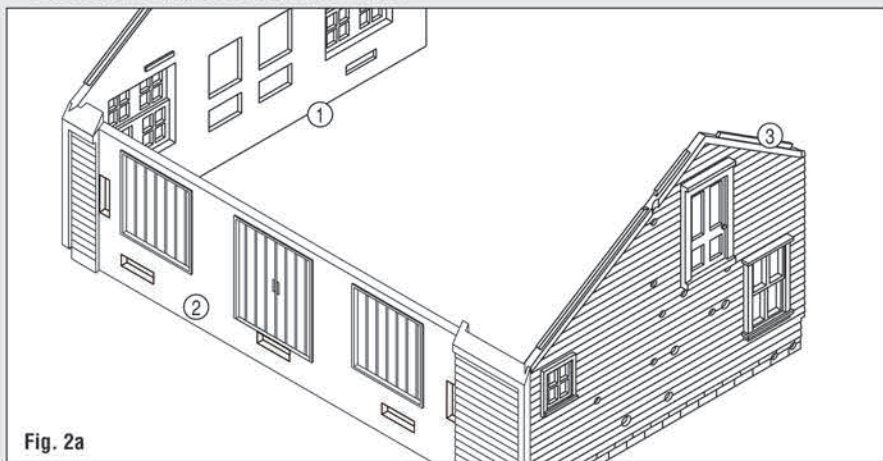

Fig. 2a
- Snap Walls ① and ③ firmly into place on Wall ② (**Fig. 2a**).